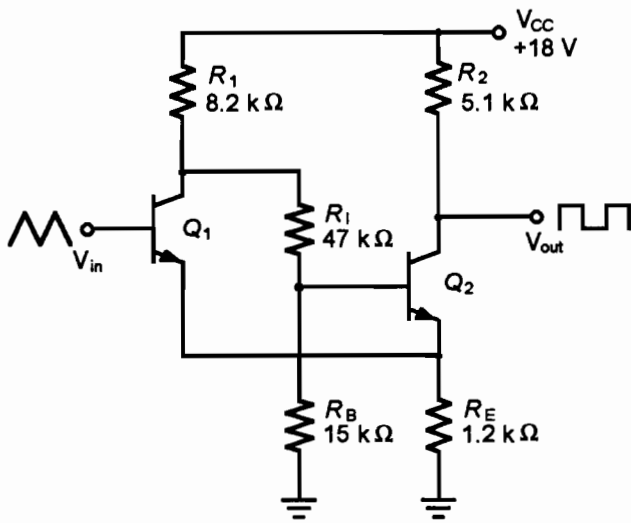

Figure 36.1
1. Construct the circuit of Figure 36.1. Do not apply any input signal.
1. Briefly give a functional description of the operation of the circuit of Figure 36.1. Be sure that your description includes the signal values at which the BJTs change state, and explain why.